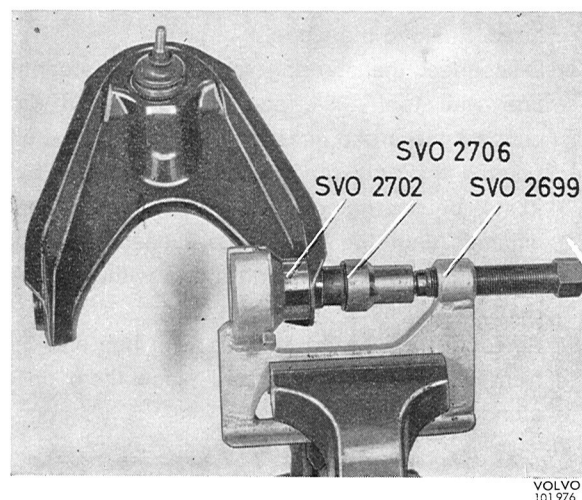

Fig. 6-35. First rubber, upper control arm
3. Hold press tool 2699 firmly in a vise. Press in one of the bushings with tool 2702 and tool 2706, see Fig. 6-35.